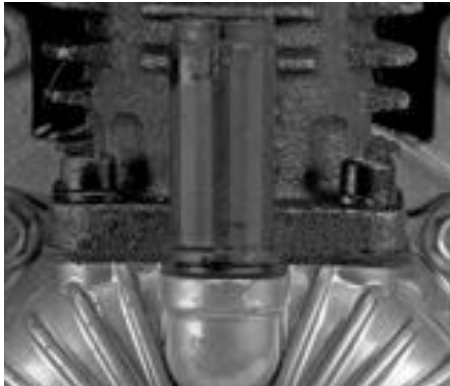

Fig. 1
2. Remove plastic oil fill breather plug (see Fig. 1).